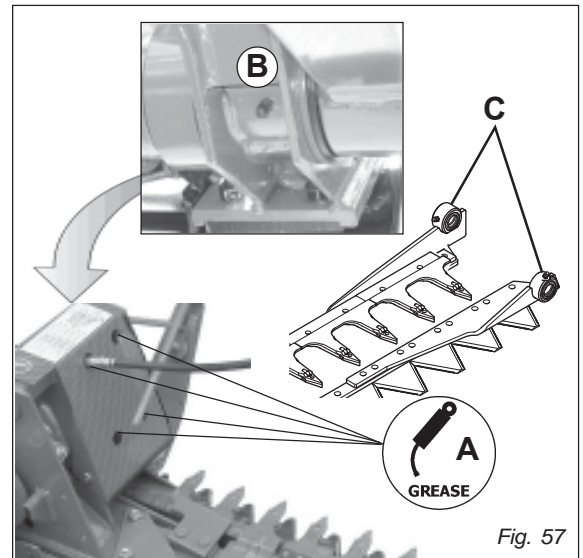

Fig. 57
- Grease points (A, B and C, Fig. 57).
- Grease point (A, B and C, Fig. 57).
During all maintenance operations on moving parts, it is important to grease all the points indicated in Figure 57 before starting the machine.
The expansion pins must be reassembled as shown in Figure 67 (V), by tightening the screw and the conical nut with a torque not exceeding 30 Nm. Every time the expansion pins are disassembled and reassembled, one must grease the blade head concerned (C, Fig. 57).